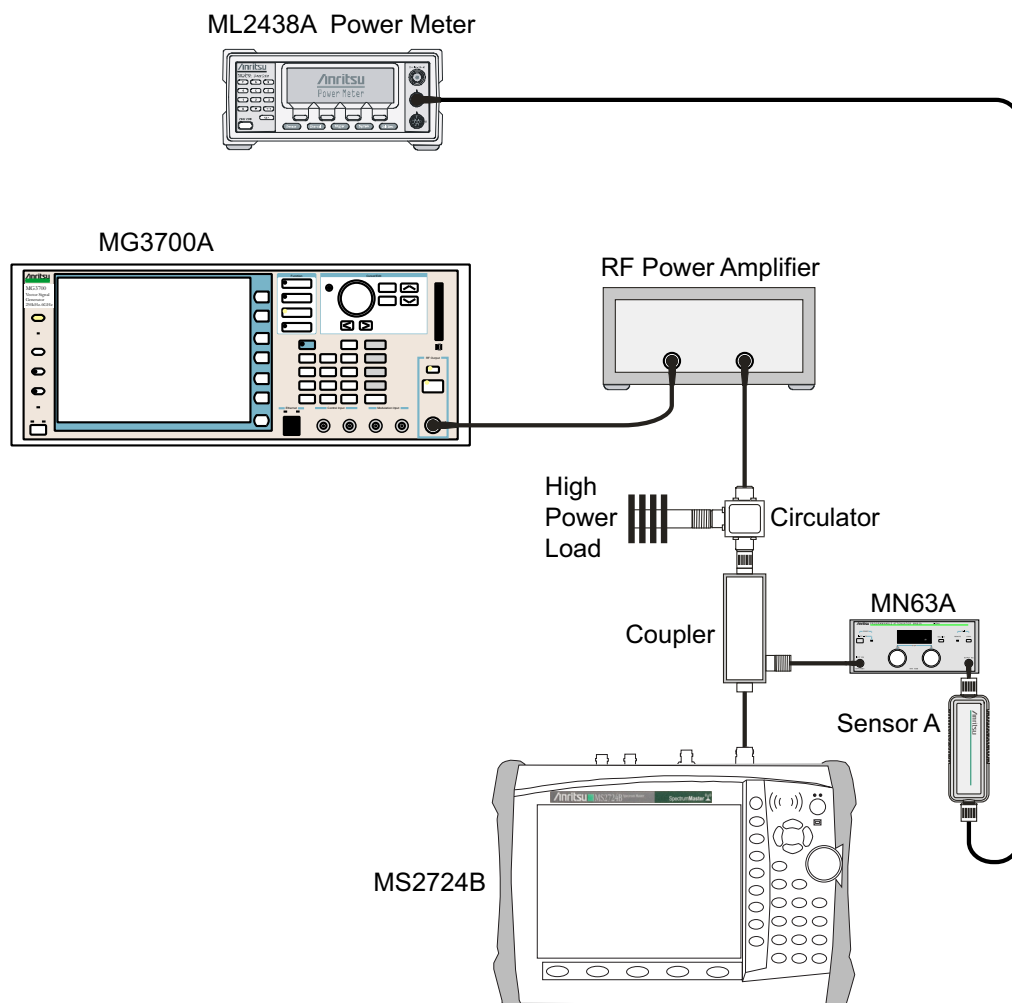

Figure 2-21. WCDMA/HSDPA Signal Analyzer – Test Setup for Spectrum Master
33. Disconnect the coupler from Sensor B and connect the coupler to the MS2723B or MS2724B, referring to Figure 2-21, “WCDMA/HSDPA Signal Analyzer – Test Setup for Spectrum Master” on page 2-48.